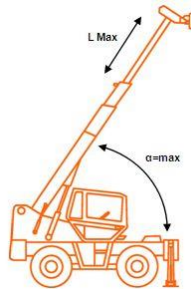
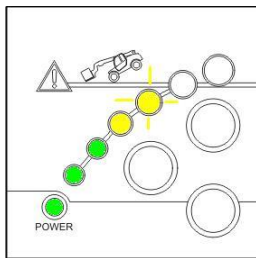

Figure 3.2.33
Figure 3.2.34
6) Step 6: Make the telescopic handler reach the state as shown in fig. 3.2.33, that is, the boom is fully extended at the maximum angle with outrigger landing to ground. Press OK button once. The indicator changes to the state as shown in Figure 3.2.34.